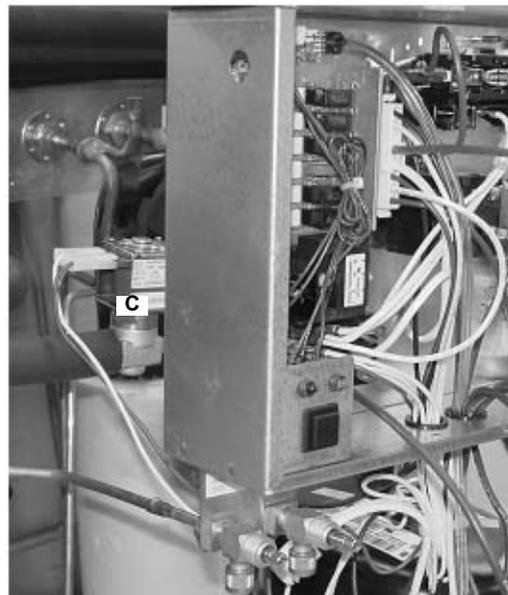

FIGURE 55
58. Connect the hot gas valve harness (C) (white and red leads) to the hot gas valve (FIGURE 55).